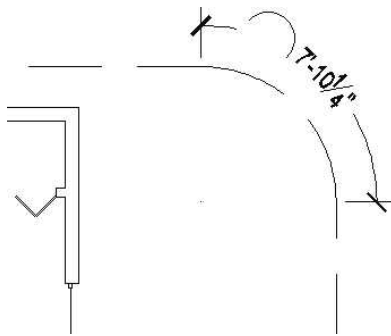

FIGURE 12.29: The arc length dimension positioned on the curve
An *arc length dimension* measures the length of an arc or polyline arc segment. As shown in Figure 12.29, an arc symbol, or cap, precedes the text to identify it as an arc length dimension.
4. Click to locate the dimension (shown previously in Figure 12.29).